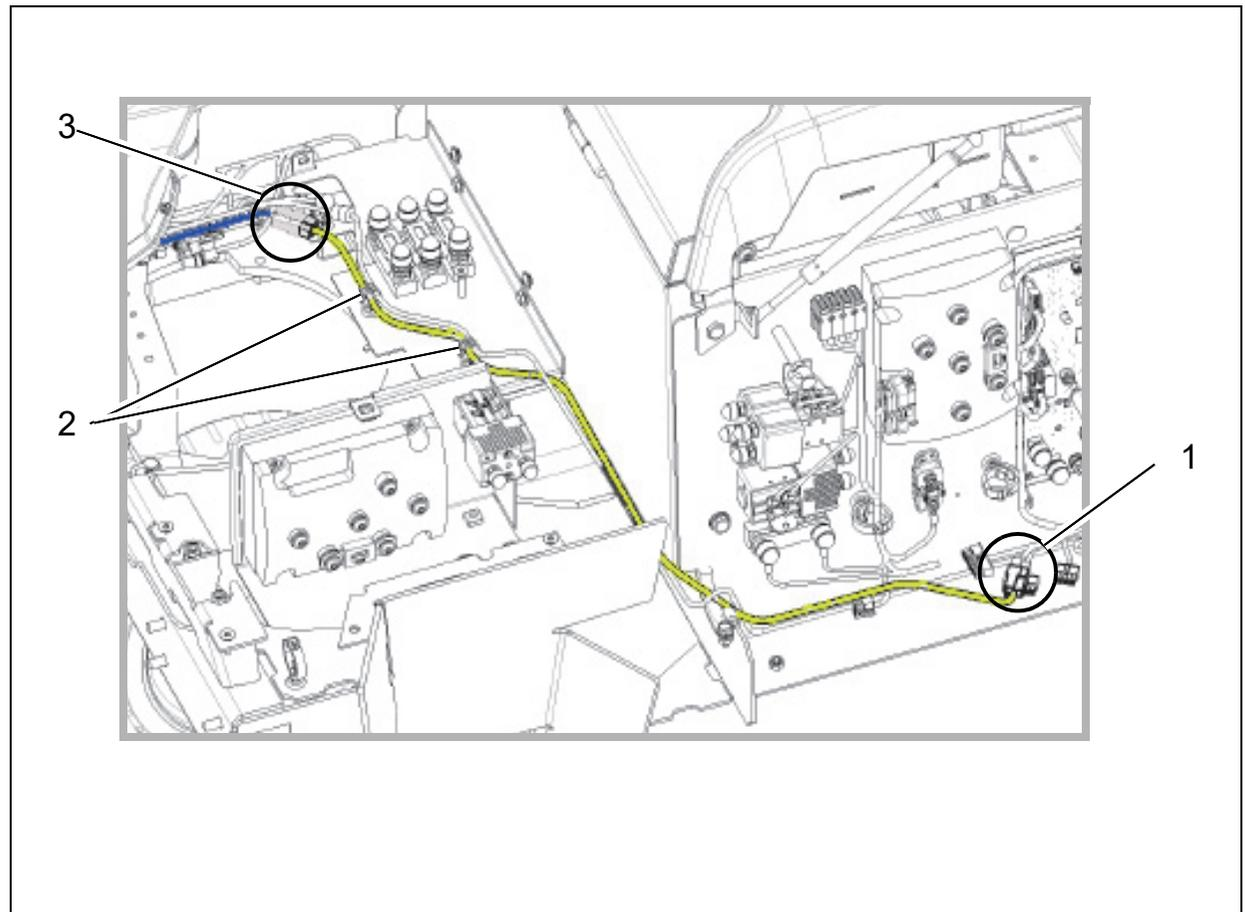

Fig. 8
1. Connect plug X73 of cable loom W60 to cable loom W3 (Fig. 8/5).
2. Route cable loom W61 (shown in yellow) according to the illustration up to the monitor cable (shown in blue). Lead the cable through the cable holder (Fig. 8/6).
3. Connect plug X71 to the plug of the monitor cable (Fig. 8/7).